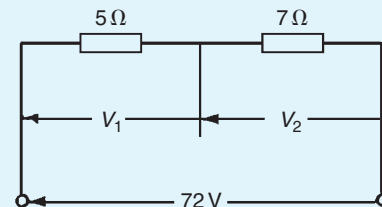

Figure 5.32
- For the circuit shown in Fig. 5.32, find (a)  $V_1$ , (b)  $V_2$ , without calculating the current flowing.